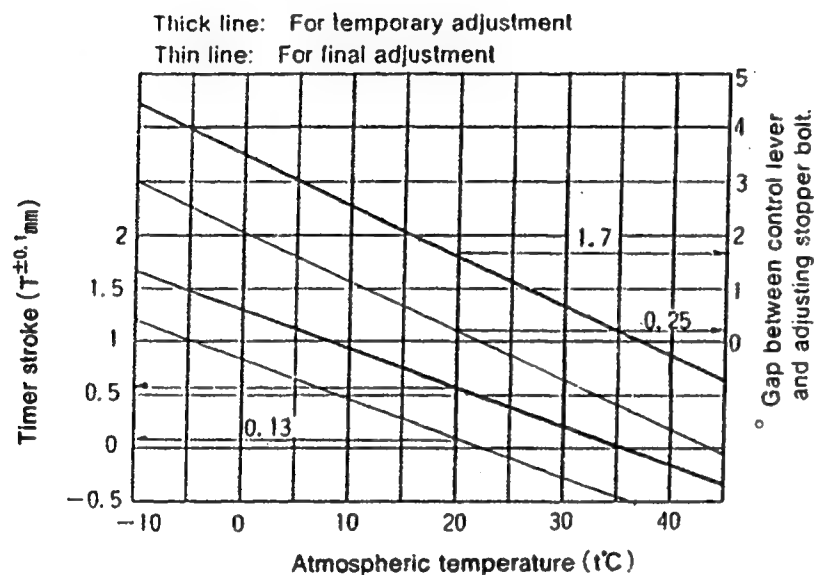

Fig. 2
1. Calculate the timer stroke from Fig.2 according to the atmospheric temperature at the time of adjustment.
Formula for calculating Fig. 2
1. Calculate the block gauge dimension $g \pm 0.05\text{mm}$ from Fig. 2 according to the atmospheric temperature at the time of adjustment.
2. Insert the block gauge (thickness gauge) selected in Step(1) above between the bracket and the idling stopper bolt.